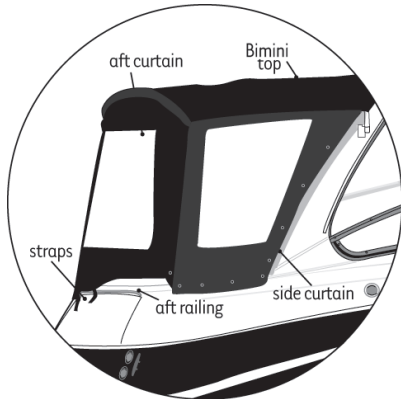

Figure O5: Camper Side & Aft Curtain Installation
These curtains are connected to the hardtop (if applicable) by a track system and snap to the windshield. Note: In a camper canvas without arch configuration, all curtains attach directly to the bimini top. The camper curtains used in conjunction with the bimini top, forward connector and bimini side curtains completely encloses the cockpit area when desired. See Figure O5.
- 2) Using the locator tags (if applicable), find the side curtains. See Figure O5.
- 6) Attach straps to aft rail and pull to adjust. See Figure O5.